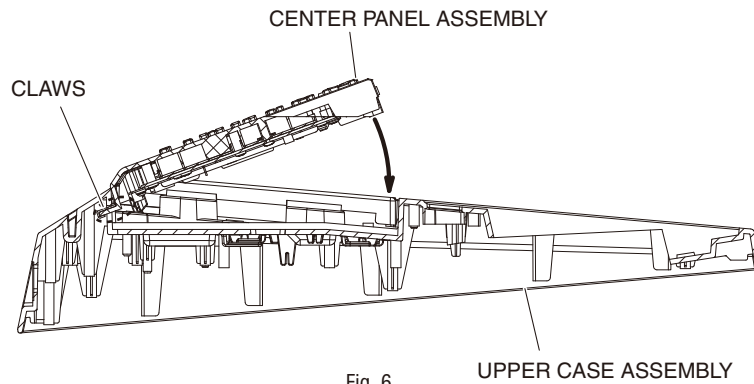

Fig. 6
* **When installing the center panel assembly, fit claws of the center panel into the holes in the upper case and install the center panel in the arrow direction. (Fig. 6)**